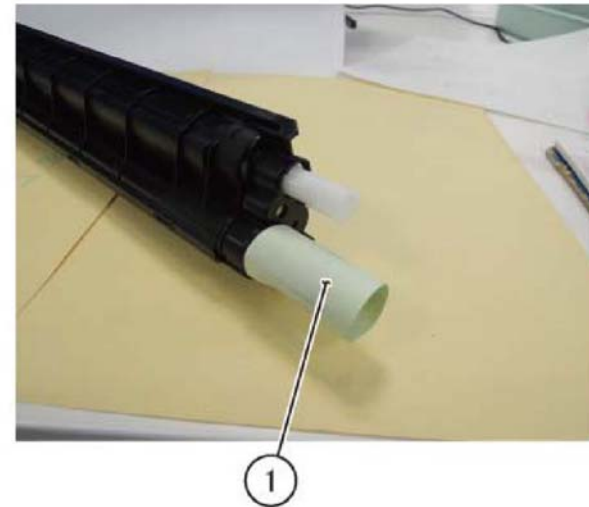

Figure 2 Pipe opening cover
3. Cover the pipe opening of developer rear cover with paper and tape (1), Figure 2.